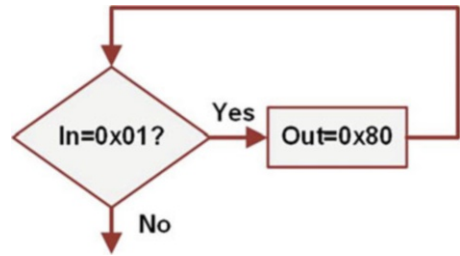

Fig. 8.8
- 8.4.3 Which high-level programming construct does the flow chart in Fig. 8.8 represent?